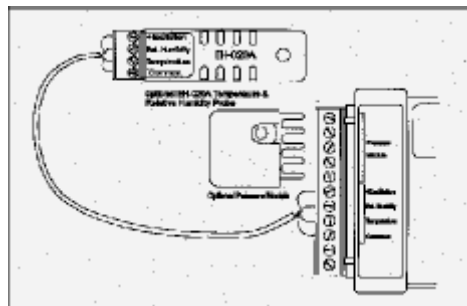

Figure 4-2: SmartReader 4 Accessories
2. To connect the Pressure Module, plug it into the five terminals as shown in Figure 4-2. Make sure it is properly plugged in and secured to the terminal block.
1. Connect the EH-020A probe to the terminal block as shown in Figure 4-2. For wire colour coding, follow instructions supplied with each probe.